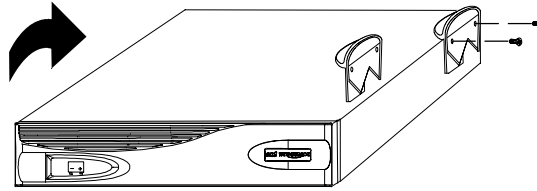

Figure 8. Installing EBM Pedestals
6. Place the EBM cabinet upside down so that the right end of the unit is accessible (see Figure 8).